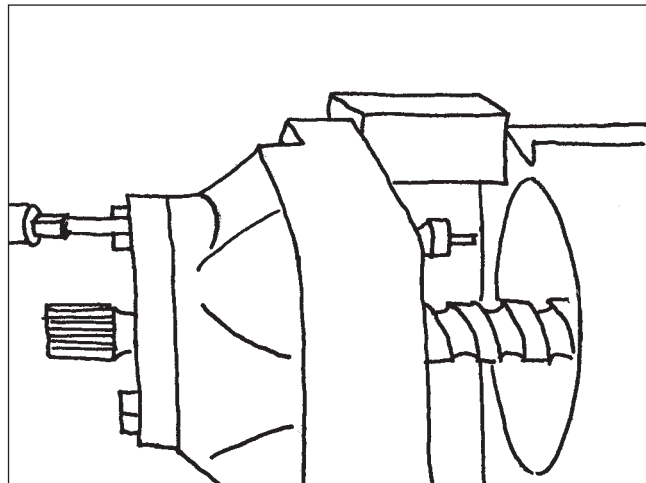

Figure 45
4. Separate the bearing cap from the housing by turning the input shaft out of the steering gear. Turn the shaft until it stops. Block the bearing cap to hold it away from the housing. (Figure 45).